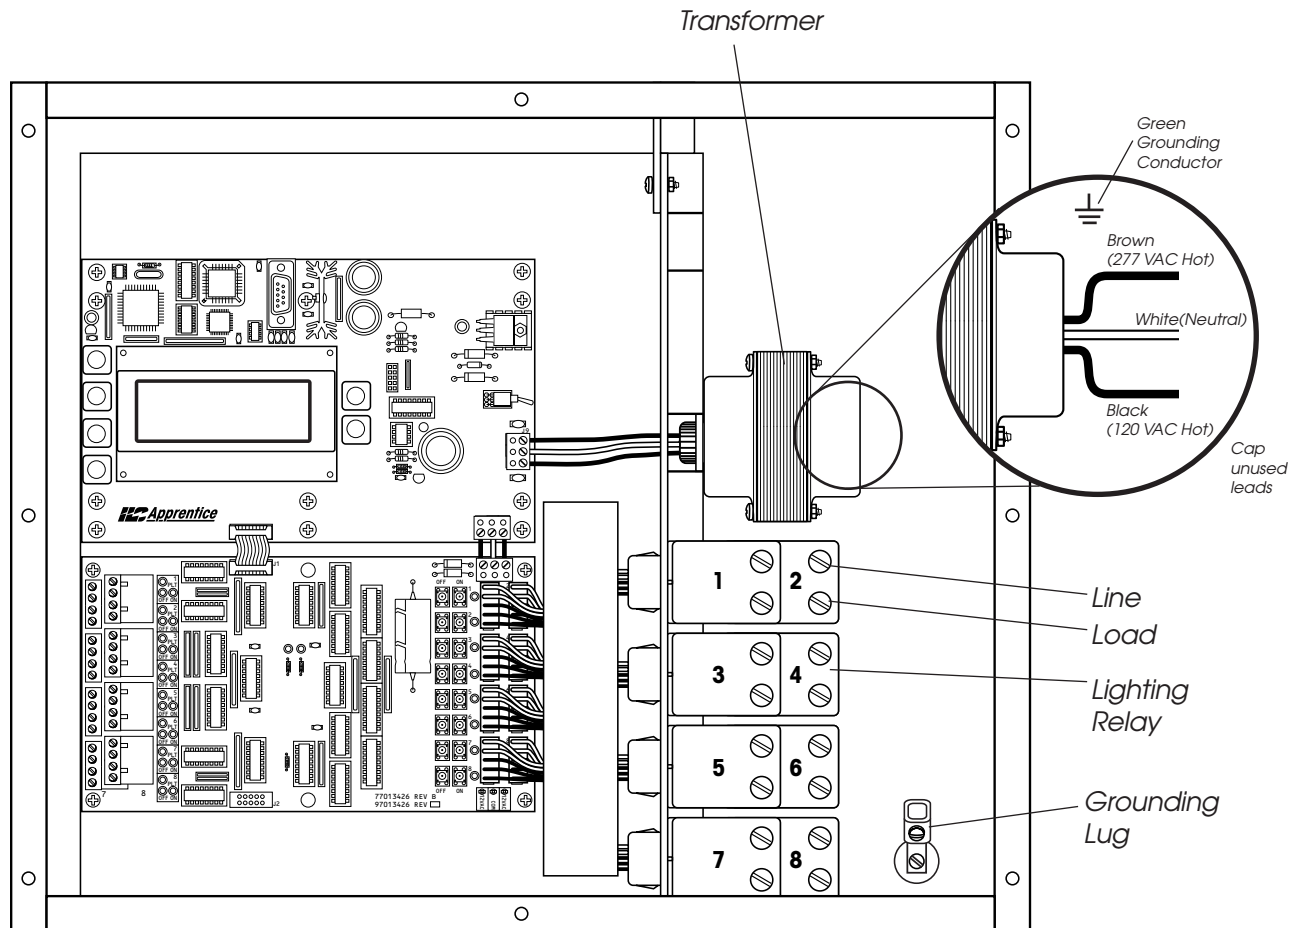

Figure 2.1 – Terminate Line to Control Transformer Primary
Run a dedicated 120 or 277 VAC circuit, including grounding conductor, and terminate it to the primaries of the ILC Apprentice processor transformer. Cap all unused leads. (See Figure 2.1.)
2.3.2 Connect Line and Load – Connect line and load wires of the line voltage circuits to the Lighting Relays. (See Figure 2.1.)